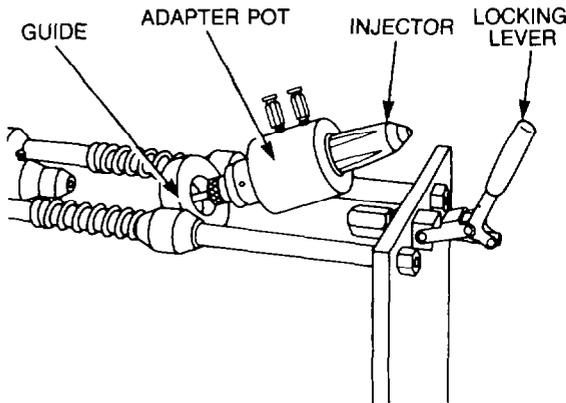

Figure 110 — Injector Leakage Tester
- c. Turn the hand crank on the injector leakage tester 3375375 two turns counter-clockwise, then install the adapter pot and injector into the guide of the leakage tester (see Fig. 110) ensuring that the locking lever on the tester is in the unlocked position.